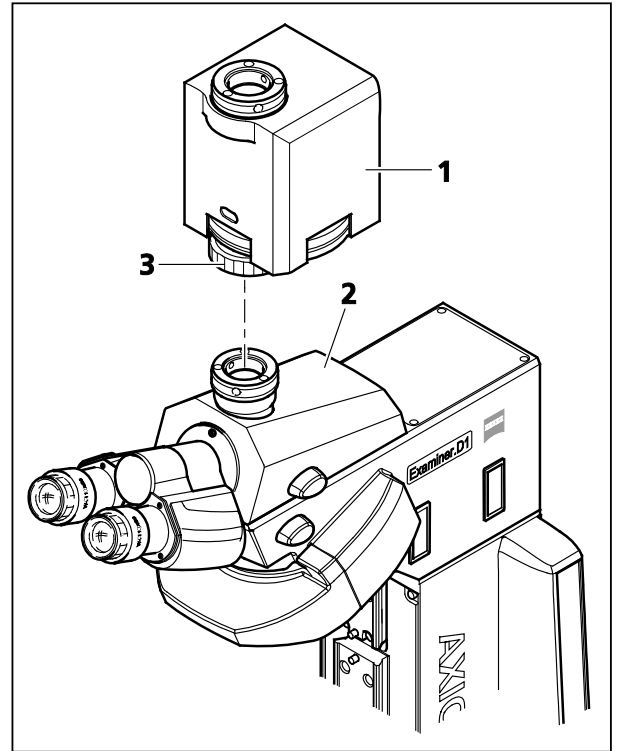

Figure 3-35 Putting on the magnification changer
- If required, remove the camera with adapter (or dust cap) from the phototube camera socket (Figure 3-35/2).
- Put the magnification changer (Figure 3-35/1) on the camera socket, line it up, and secure it with the union nut (Figure 3-35/3).